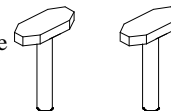

Figure 2-1-4
- HSS Pin (HSSPIN) - Plastic pins inserted through the HSSBASE to secure it to the mainboard (two required per Assembly). (Refer to Figure 2-1-4)